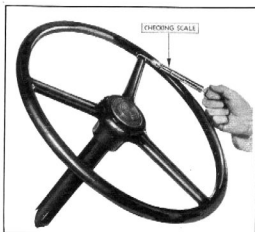

Fig. 3—Checking Worm Bearing Adjustment
4. Using J-544A Steering Gear Checking Scale, measure the pull at the rim of the wheel which is required to keep the wheel in motion (Fig. 3). This should be between 1 and 1½ pounds.